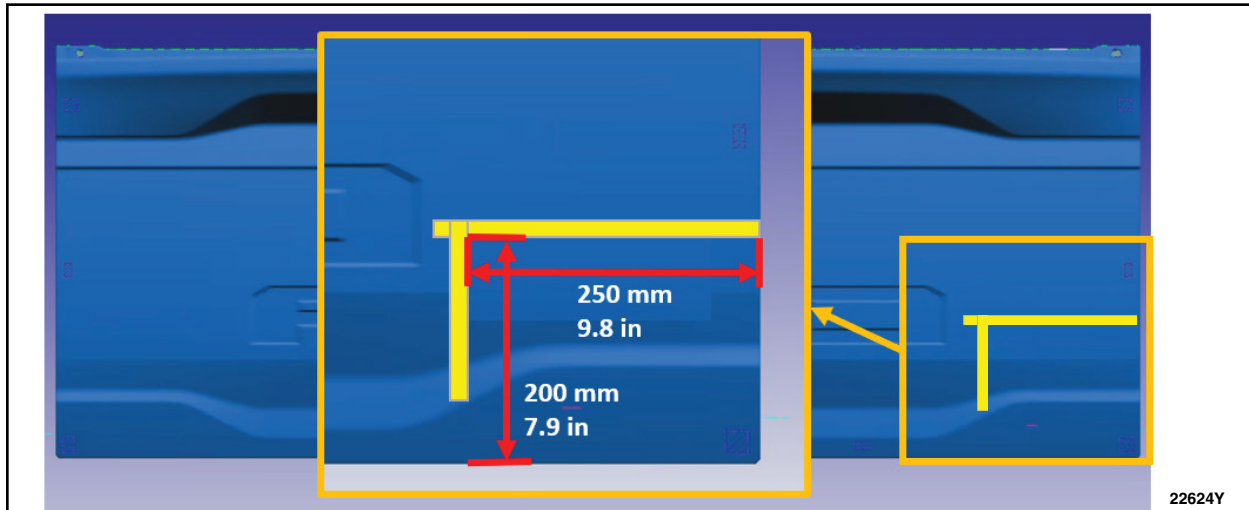

FIGURE 14
55. Measure and apply locating masking tape to the tailgate outer panel. See Figure 14.